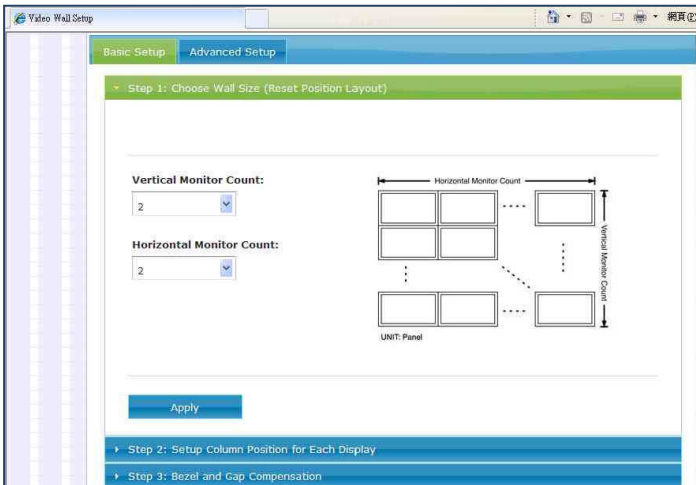

Figure 14: TV Wall Setup – Choosing Wall Size
To configure the TV Wall, check the transmitter device (client) for which you want to perform the setup. In the Main window click the TV Wall button to configure the TV wall. The software directs you to the device's basic setup Web page. The setup is simple and includes three basic steps (see Figure 14).
Step 1 in the basic setup appears (see Figure 14)